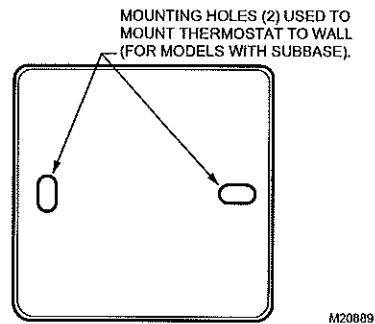

Fig. 3. Mounting hole locations for models with subbase.
8. Tighten the mounting screws. See Fig. 3.